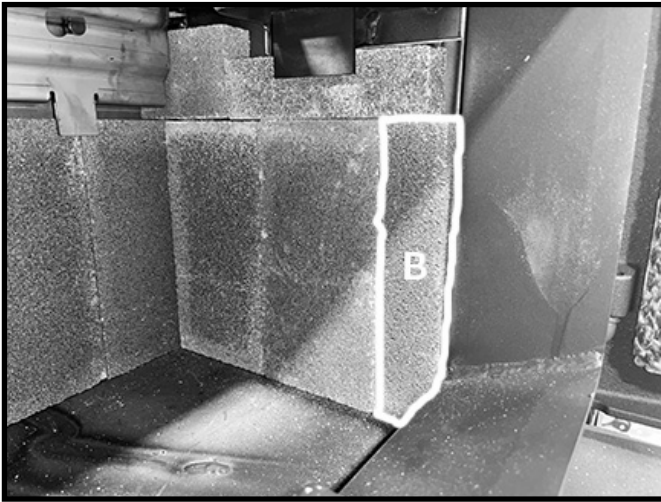

Figure 29: Front side wall firebrick in position.
5. Place a "B" firebrick under the "E" firebrick and against the side wall of the firebox (Figure 29).